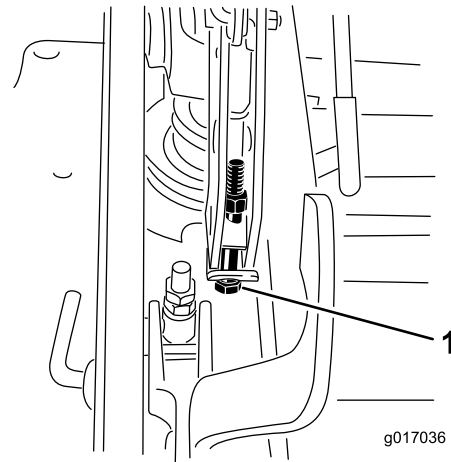

Figure 92
12. If the deck is too low, tighten the single-point-adjustment bolt by rotating it clockwise. If the deck is too high, loosen the single-point-adjustment bolt by rotating it counterclockwise (Figure 92).